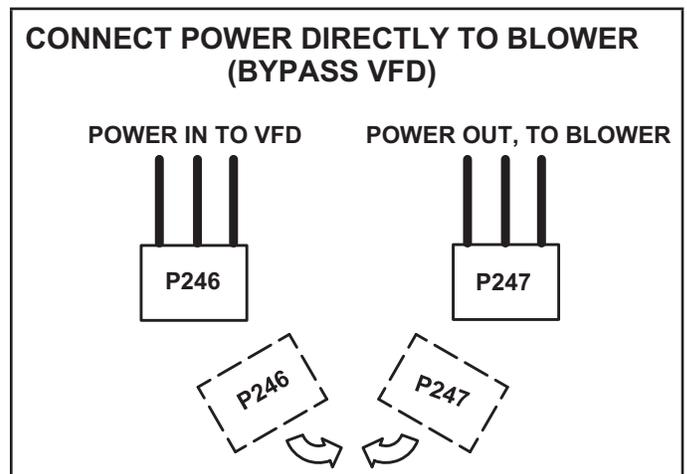

FIGURE 26
- 4 - Connect P246 to P247. See FIGURE 26.